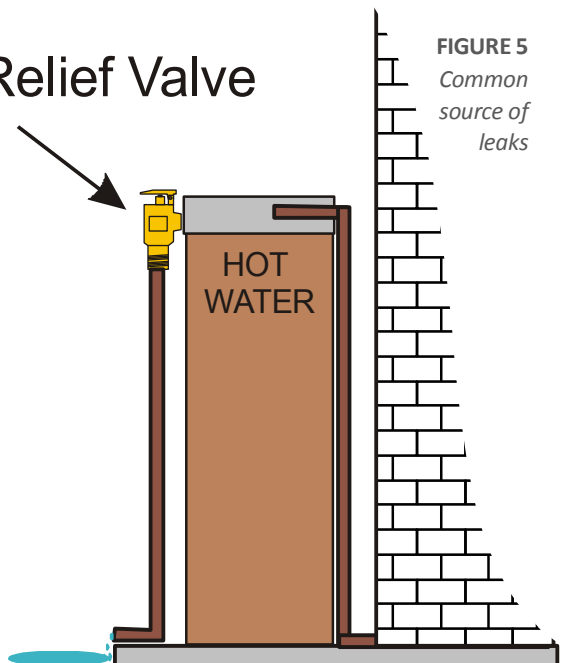

FIGURE 5
- hot water system relief valve pipes (Figure 5). If the discharge changes the moisture of the soil, the pipes should be connected to the stormwater drainage system